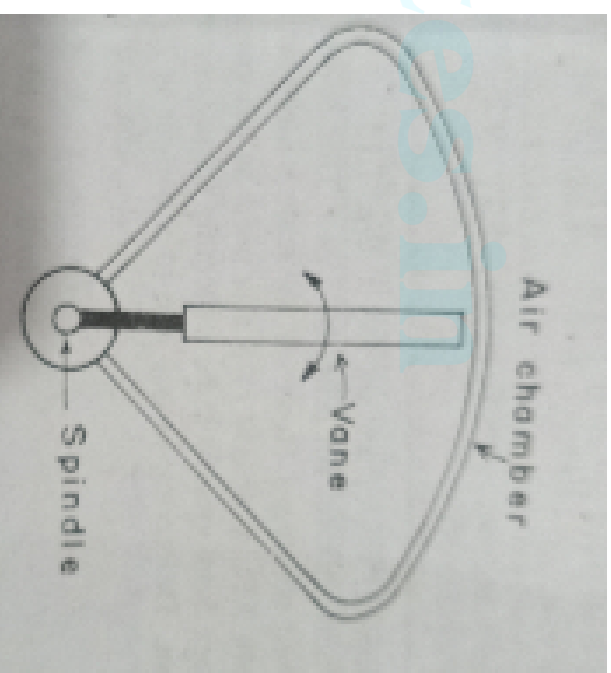

Fig 2
- In the second arrangement (fig 2) one or two light aluminium vanes are attached to the same spindle that carries the pointer.